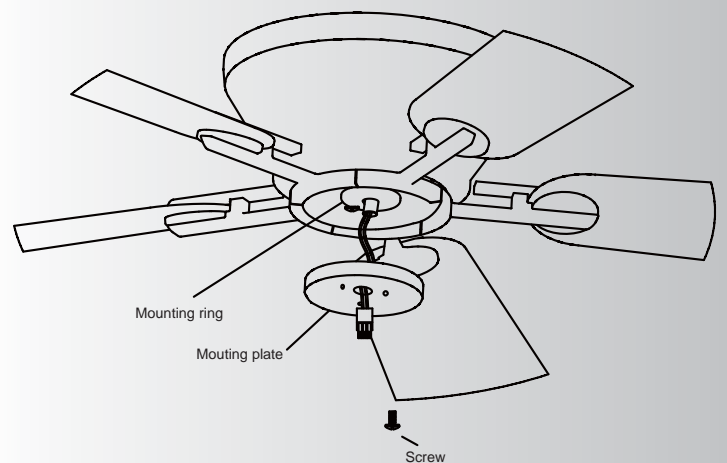

Fig. 17
Step 2. Place the key holes on the mounting plate over the 2 screws previously loosened and turn the mounting plate until it locks in place at the narrow section of the key holes. Secure by tightening the 2 screws previously loosened and reinstall the one removed. (Fig. 17)